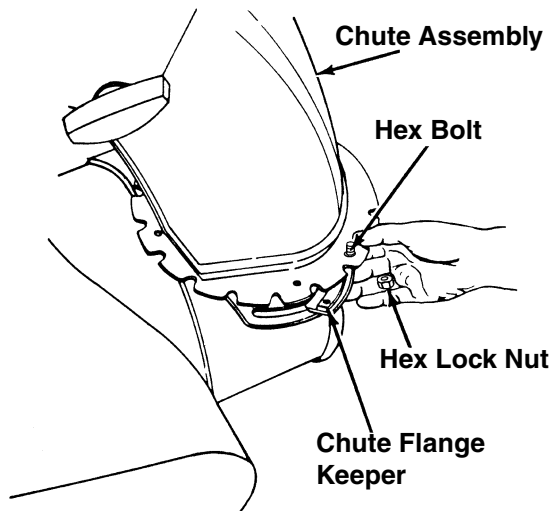

Figure 8
3. Insert hex bolt up through chute flange keeper and chute assembly as shown in Figure 8. Secure with hex lock nut.